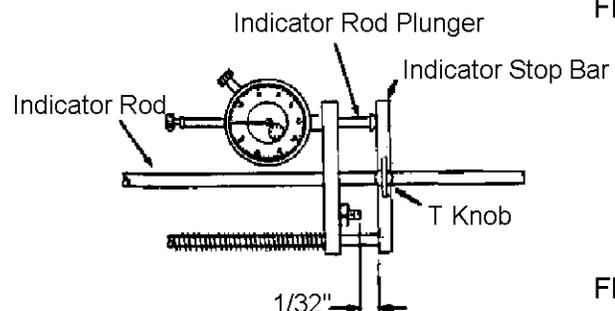
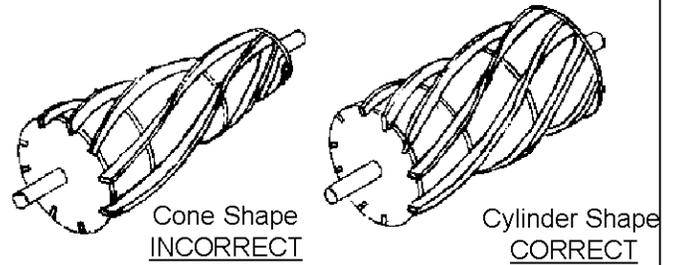

FIG. 53
FIG. 56
**THIS IS A CRITICAL SET UP AND CARE SHOULD BE TAKEN WHEN MAKING THESE ADJUSTMENTS. IF REEL IS OUT OF POSITION IN THE HORIZONTAL PLANE, IT WILL BE GROUND CONE SHAPED. SEE FIG. 56.**
- C. Now loosen Knob D on the indicator stop bar. Holding the indicator rod firmly against the reel shaft, move the indicator stop bar back, until no contact is made with the indicator rod plunger. Now move indicator stop bar forward until contact is made and then an additional 1/2". This will set the plunger at about its midpoint and allowing it to move in both directions. See FIG. 53.
**IT IS ESSENTIAL THAT CARE IS TAKEN WHEN SETTING THE REEL UP IN THE HORIZONTAL POSITIONS IN ORDER TO GRIND IT INTO A CYLINDER SHAPE. ANY MISALIGNMENT WILL CAUSE YOU TO GRIND INTO A CONE. SEE FIG. 56.**
- A. Before storing the set up gauge, it is very effective to use it to check the ungrounded reel to determine the amount the reel is conical in shape and which end has the larger diameter. See FIG. 56. Start with the set up gauge at the right end of the reel. Loosen the wing nut on the indicator stop bar, holding the indicator rod firmly against one blade. See FIG. 53. Pull the indicator stop bar back until it clears the plunger then advance it forward until it contacts the plunger and advances it 1/2 inch further. Lock in place. This sets the plunger at its midpoint and allows adequate movement in both directions. Set outer dial at zero and note position of pointer on small dial.